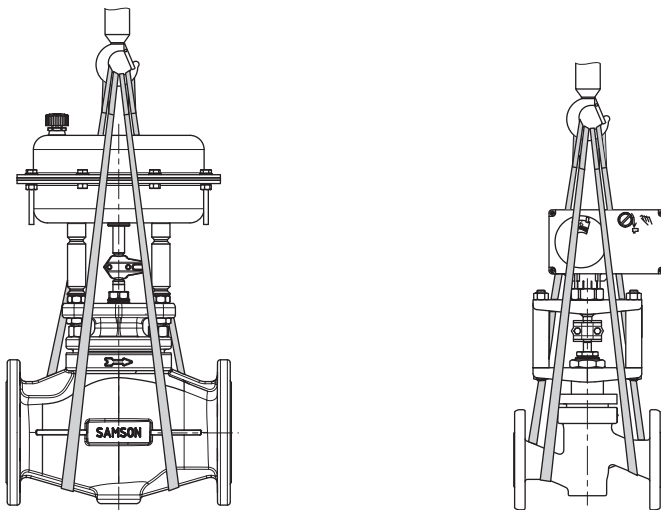

Fig. 4-1: Lifting points on the control valve
- Use a hook with safety latch (see Fig. 4-1) to secure the slings from slip-
1. Attach one sling to each flange of the body and to the rigging equipment (e.g. hook) of the crane or forklift (see Fig. 4-1).